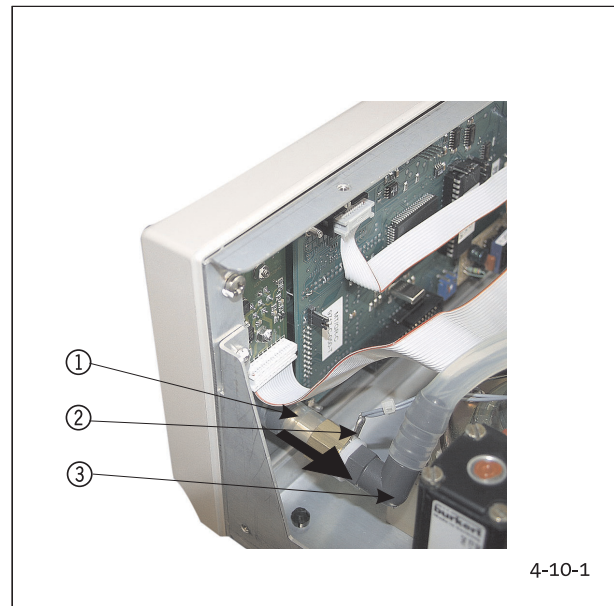

Fig. 4-10-1: Position Insufflation Tube Connection
(Fig. 4-10-1, ②) is integrated into the connecting adapter between insufflation tube connection and pneumatic unit.